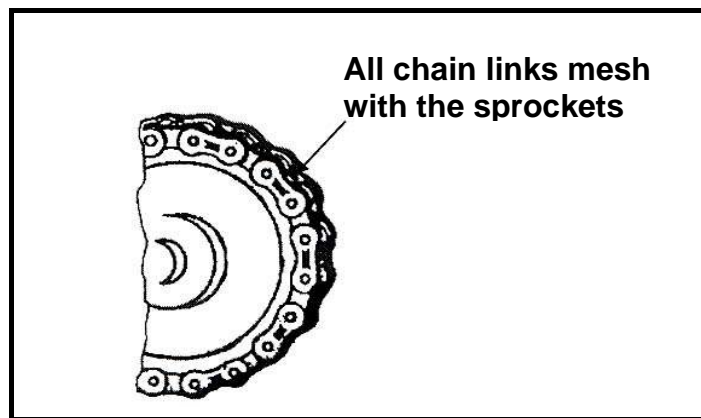

FIGURE 1.5
1.15 Which ONE of the following steps should be followed when meshing a rolling chain and a sprocket wheel as shown in FIGURE 1.5?